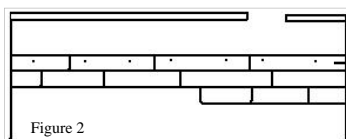

Figure 2
**Suggested Layout Working Line:** For 3" material, snap a chalk line 30 1/4" from the wall on the door side of the room. This small area will be your working space and the last area to be installed. Temporarily nail straight board on chalk line. See figure 2 below.